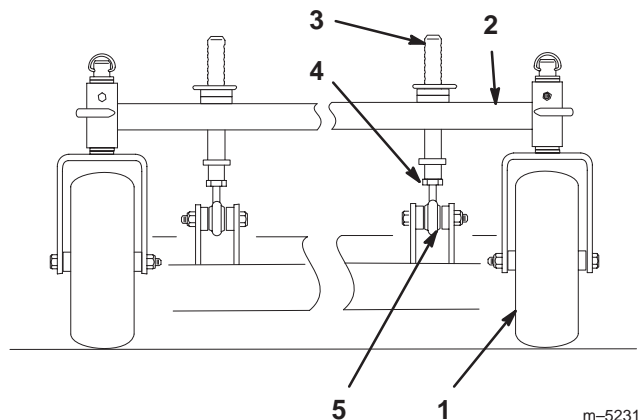

Figure 54
1. To change the front-to-rear pitch, the front height-of-cut posts can be adjusted (Fig. 54).
2. To raise the front of the deck, loosen jam nut and rotate the front pin clockwise (Fig. 54).
3. To lower the front of the deck, loosen jam nut and rotate the front pin counter clockwise (Fig. 54).